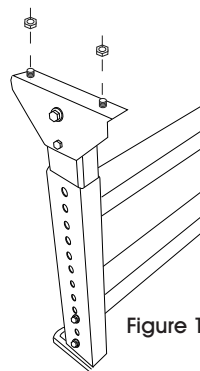

Figure 1
1. Hardware is prescrewed into the tops of the H-Stands. Remove the hardware. (See Figure 1)